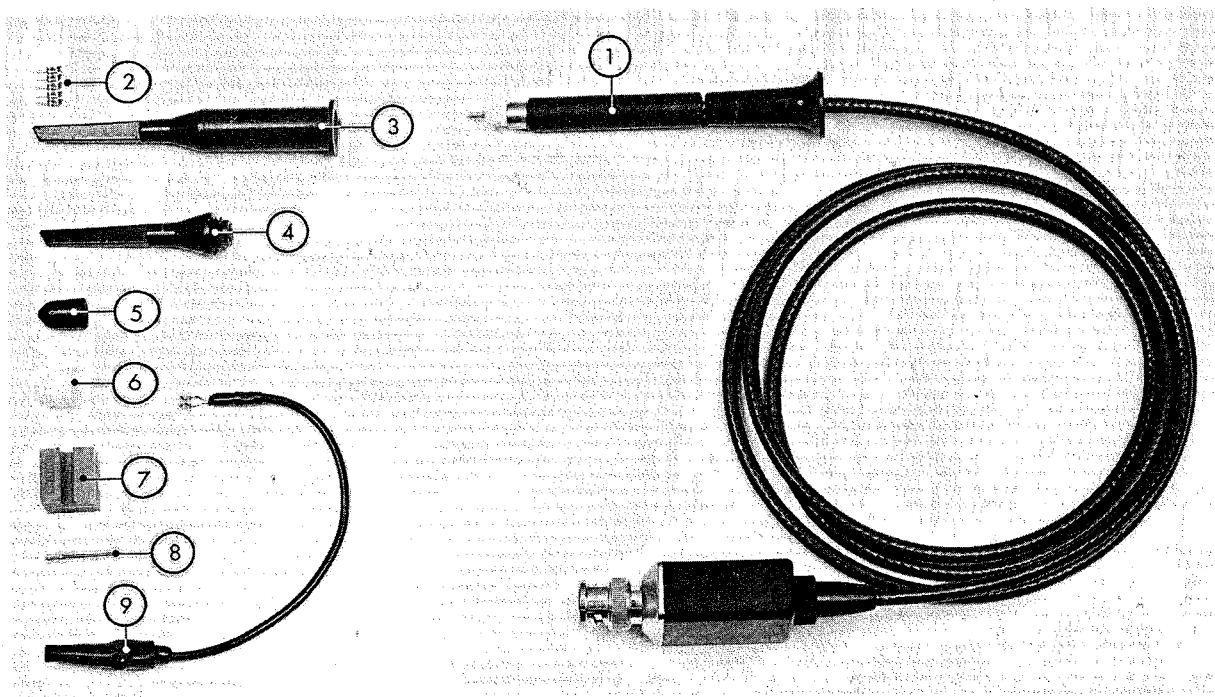

Fig. 3.23. Attenuator probe set PM 9358
1 probe assembly	Fig. 3.23, item 1
5 soldering terminals	Fig. 3.23, item 2
1 test hook	Fig. 3.23, item 3
1 spare test hook sleeve	Fig. 3.23, item 4
1 protective cap	Fig. 3.23, item 5
1 insulating cap	Fig. 3.23, item 6
1 probe holder	Fig. 3.23, item 7
2 spare test pins	Fig. 3.23, item 8
1 earthing cord	Fig. 3.23, item 9